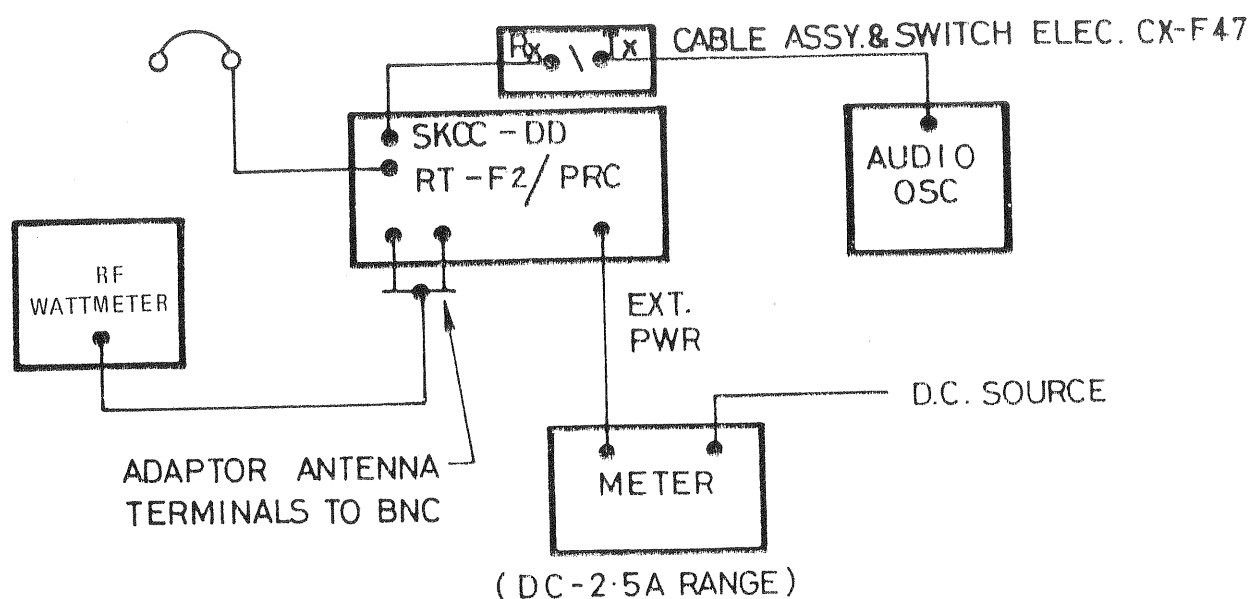

FIG 6 — TRANSMITTER POWER OUTPUT — TEST SET-UP
- Connect equipment as shown in Fig 6, with Switch Elec CX-F47 in the RX position.